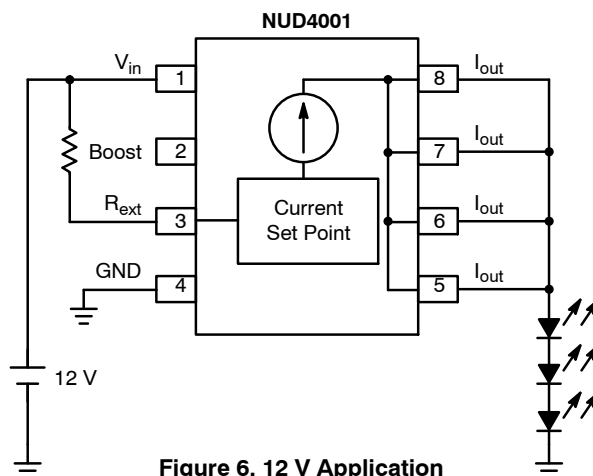

Figure 6. 12 V Application
- a. Per example in Figure 6, $V_{in} = 12 \text{ V}$
- a. Per example in Figure 6,